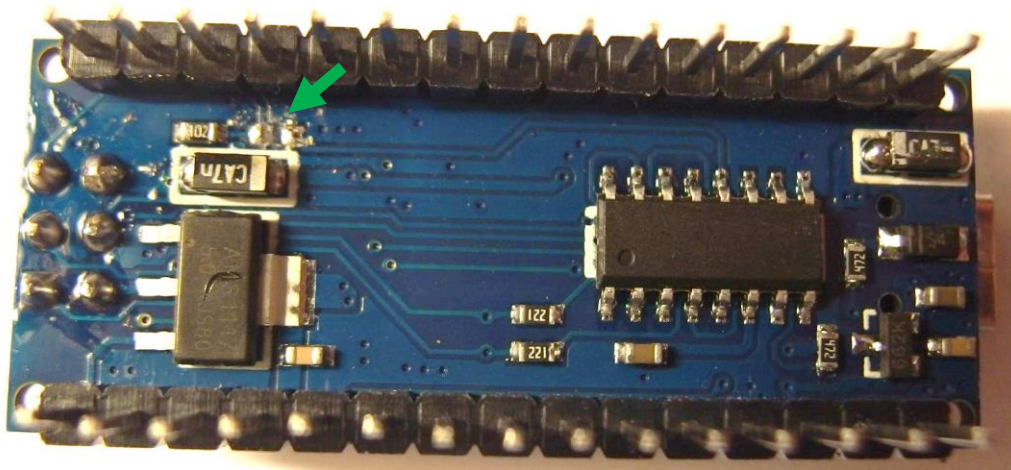

Figure 12: Deactivate the auto-reset of the Arduino Nano by desoldering the capacitor at the marked position.
- To disable the auto-reset, desolder the capacitor as shown in Figure 12.